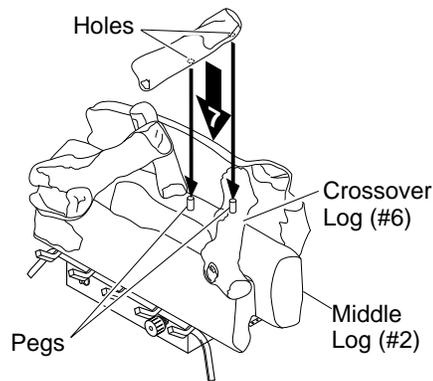

Figure 34 - Installing Crossover Log (#7) to Model CCL3930NTA Only
- For CCL3930NTA only:** Locate holes on the bottom of crossover log (#7). Slide onto the pegs located in crossover log (#6) and middle log (#2). See Figure 34.